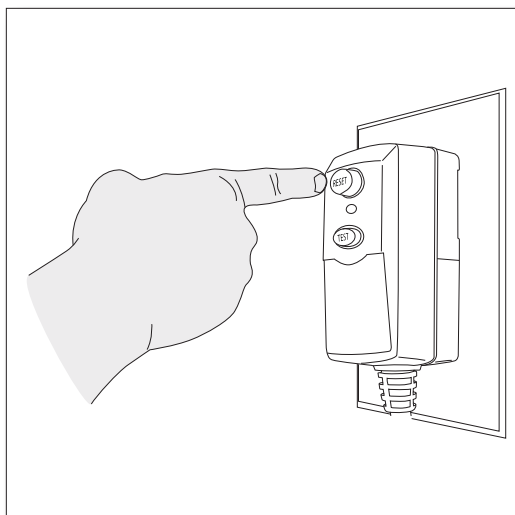

Fig. 20
- Unwind the power cord completely and plug the GFCI into a grounded 120 volt outlet. Press the ‘reset’ button on the GFCI box (*Fig. 20*). The indicator window should show a red color. This must be done each time the unit is plugged in.